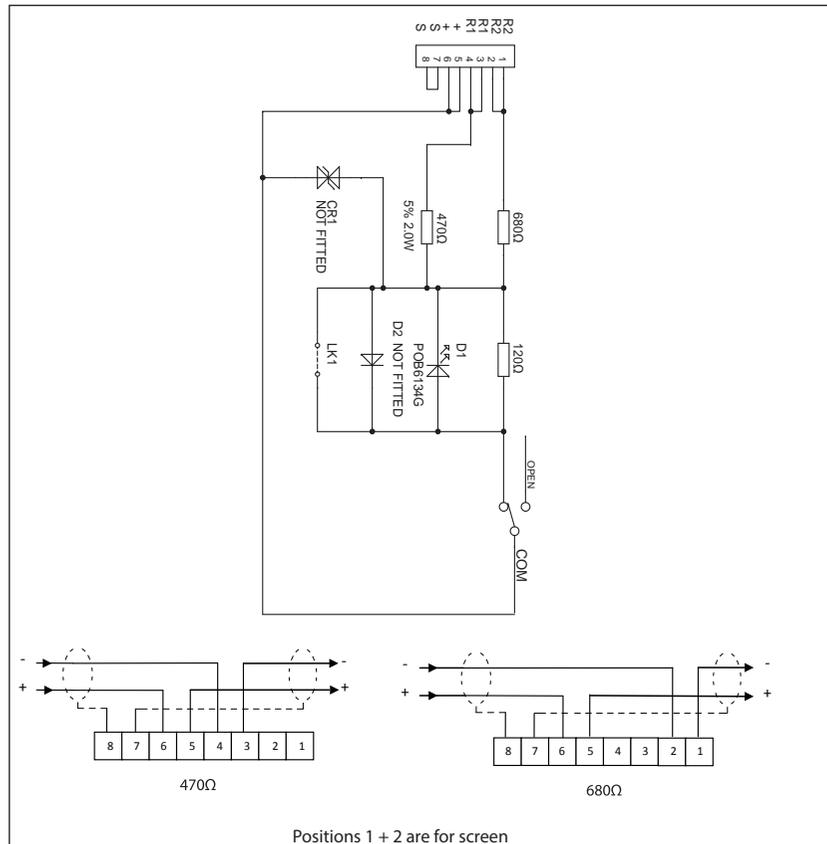

Fig. 3 Terminal block connection
- Run the cables into the backbox and connect them to the terminal block as shown in **Fig. 3**. Ensure that functional earth/screen continuity is maintained.